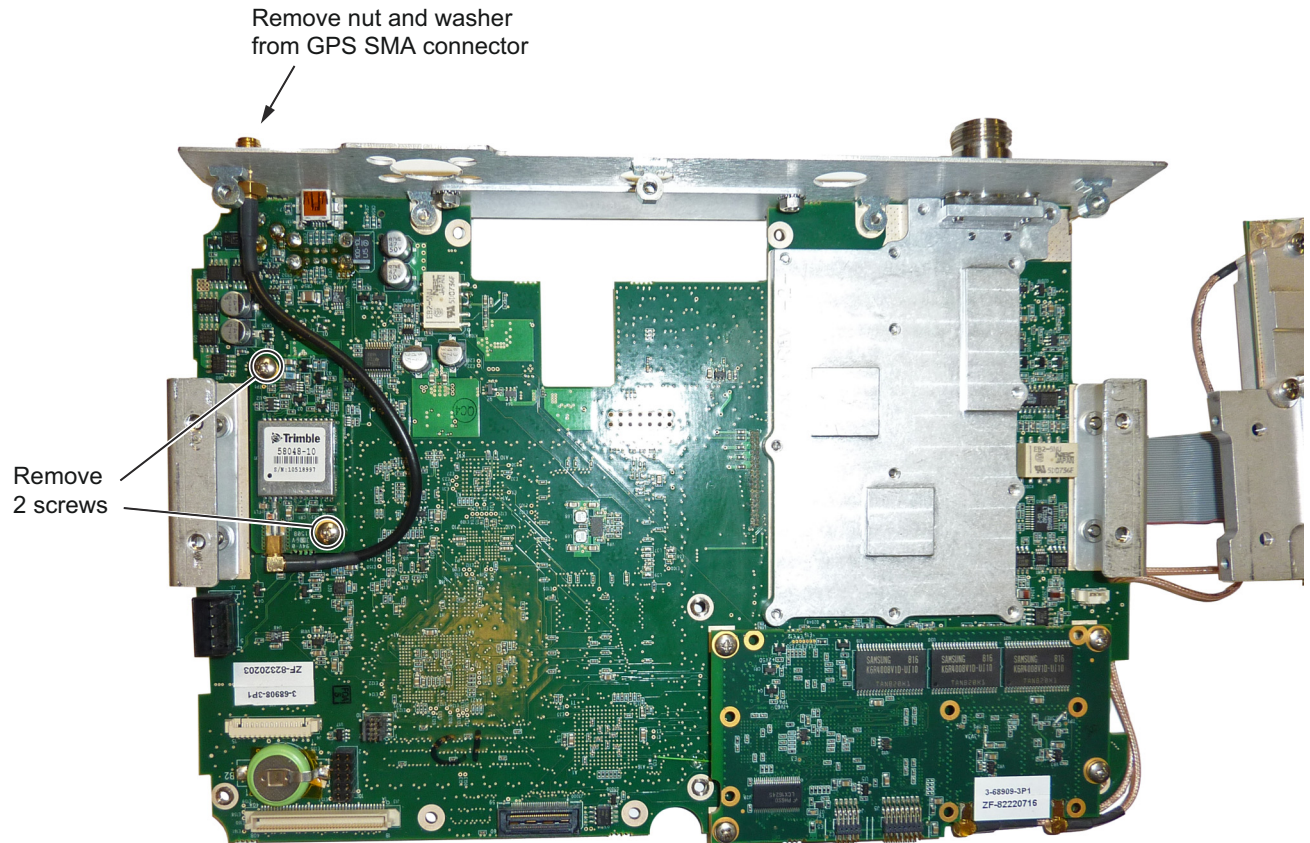

Figure 6-18. Removing the GPS Module from the Main/VNA board (SPA board set to the side)
4. Use a 5/16 inch wrench to remove the nut and washer from the GPS SMA connector. Push the connector through the top panel. Refer to Figure 6-18.
5. Referring to Figure 6-18, use a Phillips screwdriver to remove the 2 screws retaining the GPS module to the Main/VNA board.
Note The PCB Assembly that is shown in Figure 6-18 is not a VNA Master, but the removal steps are appropriate.